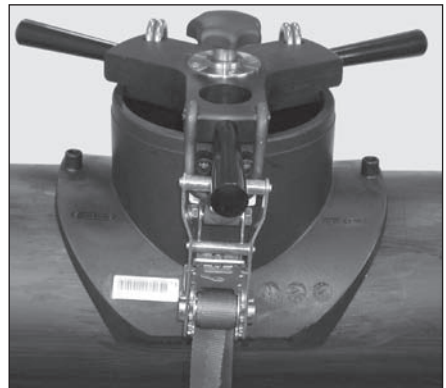

Fig. 28
- Clamp belt manually and tighten by turning the belt ratchet until the ASA-TL saddle sits flush on the pipe (see Figure 28).